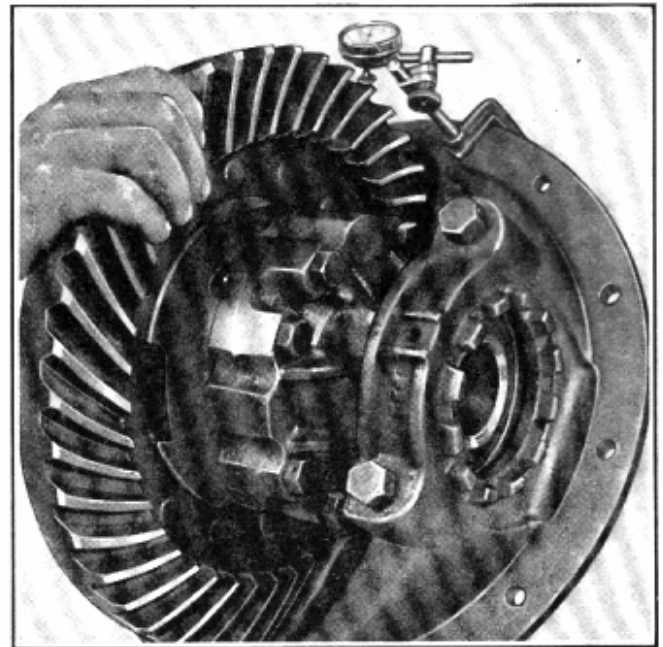

Fig. 41—Checking Ring Gear Backlash
- Check the ring gear and pinion back lash (see Fig. 41). This should be from .008" to .010". If it is more than this, loosen the right hand adjusting nut one notch and tighten the left hand nut one notch. If it is less than .008" to .010" loosen the left hand nut one notch and tighten the right hand nut one notch. Tighten down the cap screws and recheck the ring gear and pinion back lash with a dial gauge as illustrated in Fig. 41. Assemble and tighten the adjusting nut locks.